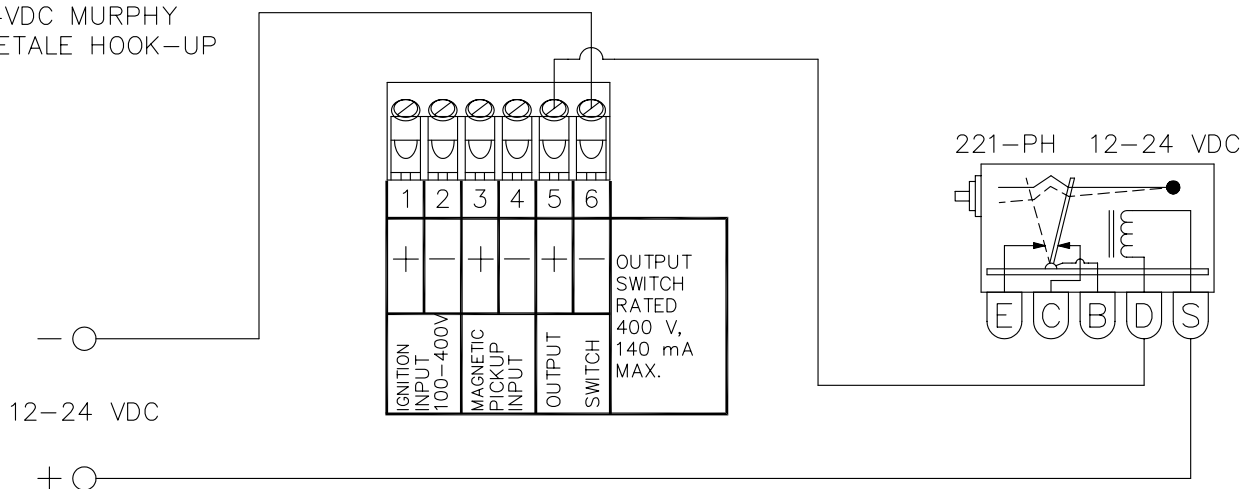

FIG. 10 DTHO-1201/3201 WIRING DIAGRAM - PNEUMATIC VALVE
- FIG. 10 WIRING DIAGRAM - PNEUMATIC VALVE